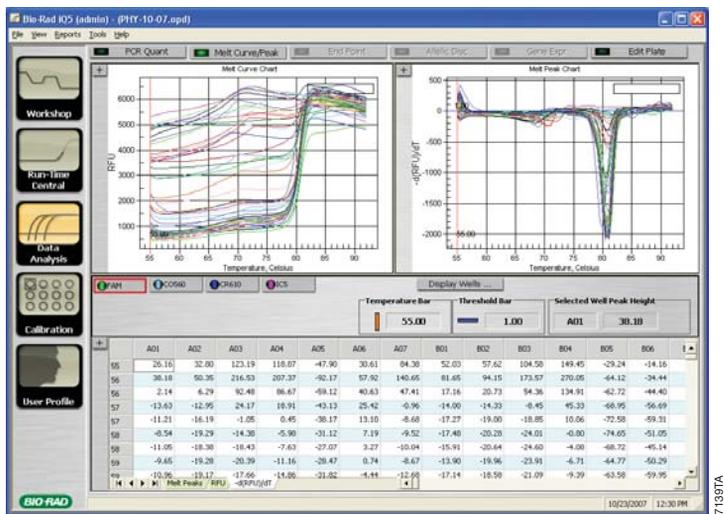

Figure 14. The Melt Curve/Peak tab of the iQ™5 Data Analysis module.
7. To view melt data, select “Melt Curve/Peak” in the Data Analysis module (Figure 14). Melt data for the first target dye (FAM™) will be presented in the spreadsheet in the lower window.
15. Return to the Data Analysis module in the iQTM5 optical system software, and select the Melt Data/Curve tab (Figure 14). Select the –d(RFU)/dT tab in the results spreadsheet for the first dye.